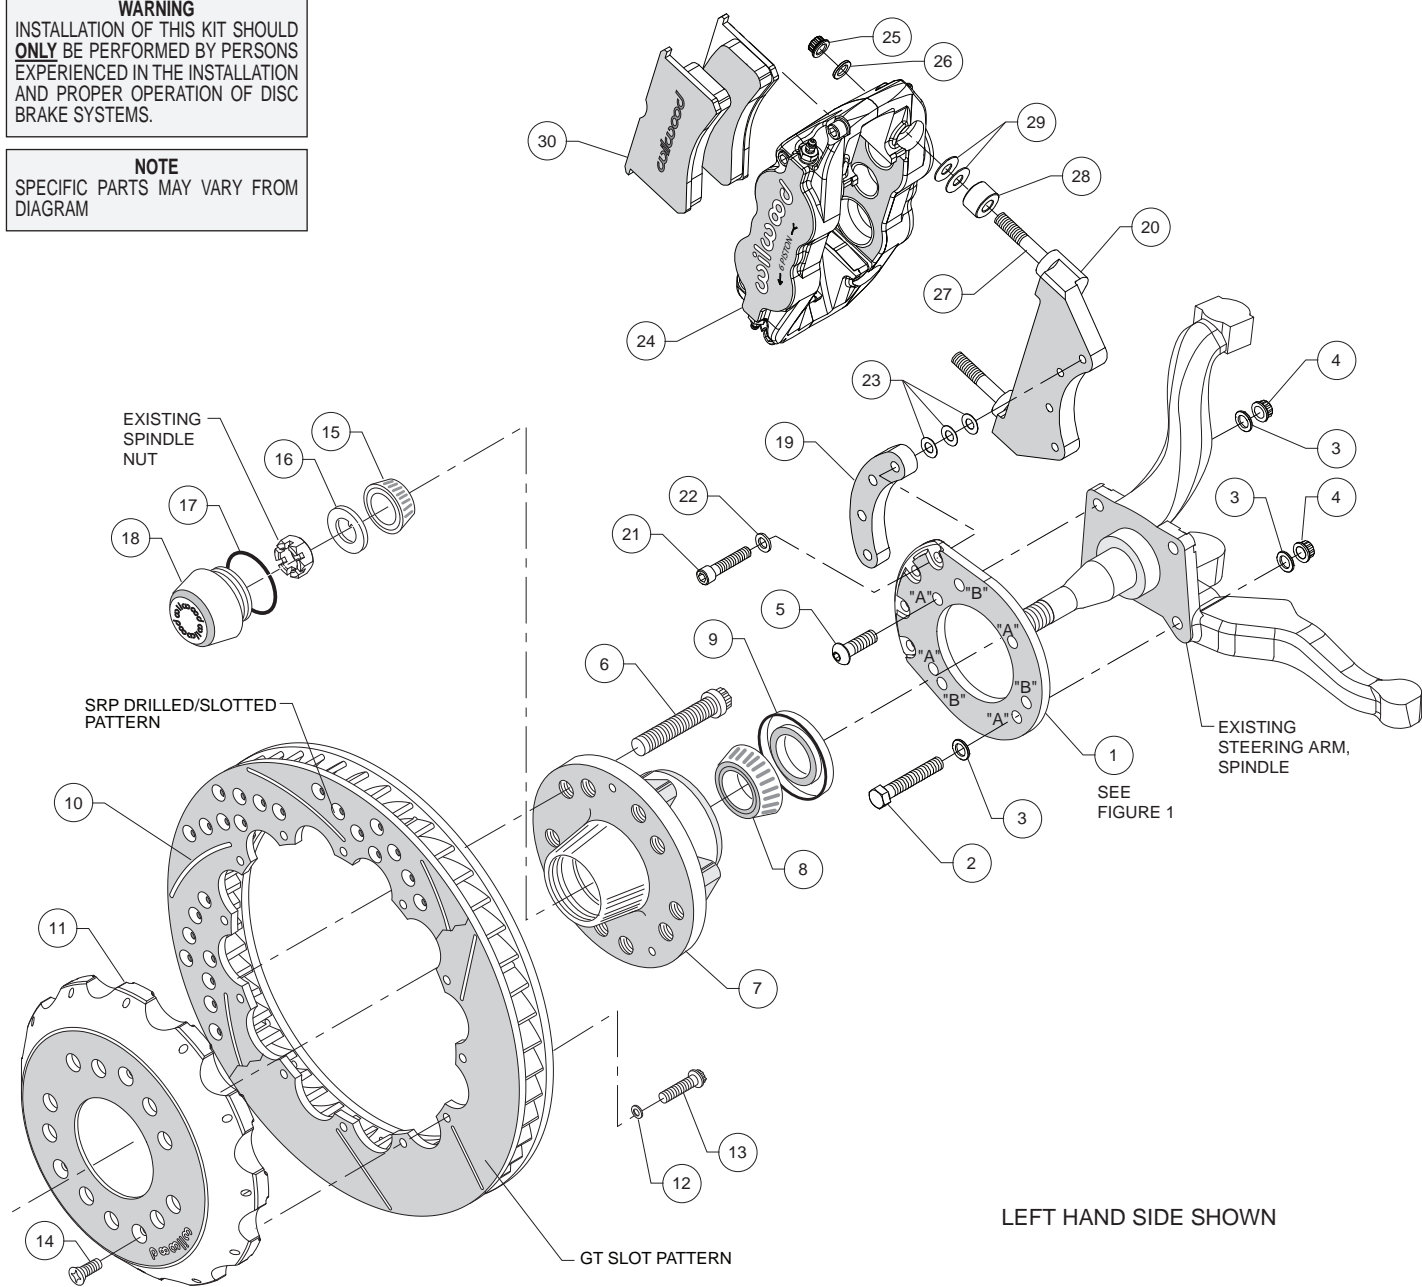

Figure 2. Typical Installation Configuration
Assembly Instructions (numbers in parenthesis refer to the parts list and Figure 2 on the preceding pages):
•Align bracket, using the four "A" holes, to the face of the spindle and attach using bolts (2 and 5), washers (3), and lock nuts (4), as shown in Figure 2 and Photo 1. Temporarily tighten the mounting bolts. **NOTE:** The bracket must fit squarely against the mounting points on the spindle. Inspect for interference from casting irregularities, machining ridges, burrs, etc. Torque lock nuts (4) to 25 ft-lb.
•Install wheel studs (6) into the hub (7), Photo 2. Torque to 77 ft-lb. **NOTE:** There are two five lug patterns in the hub (5 x 4.50 and 5 x 4.75). Ensure the correct hub stud pattern is being used to fit the wheel application.
•Pack the large inner bearing cone (8) with high temperature disc brake bearing grease (available from your local auto parts store) and install into the backside of the hub (7), Photo 3.
•Install the grease seal (9) by pressing into the backside of the hub (7), flush with the end of the hub, Photo 3.
•Pack the small outer bearing cone (15) with high temperature disc brake bearing grease and install into hub (7). Slide the hub assembly onto the spindle. Secure using spindle washer (16) and OEM spindle nut, Photo 4. Adjust bearings per OEM specifications. Install saved OEM nut lock (if any) and a new cotter pin (not included).
•Screw dust cap (18) into hub (7), Photo 5. Friction created by the o-ring (17) on the dust cap keeps it from unscrewing. **NOTE:** The O.D. of the existing OEM spindle washer may be larger than the I.D. of the dust cap not allowing it to seat against the hub face. Therefore, use the spindle washer (16) supplied with the kit instead of the OEM washer.
•Orient the rotor (10) and the hat (11) as shown in Figure 2 and Photo 6. Attach rotor to hat using bolts (13) and washers (12). Using an alternating sequence, apply red Loctite® 271 to the
- Slide the hat/rotor assembly (10/11) onto the hub (7) taking care to align the small countersunk holes in the hat with the small threaded holes in the hub (7). **NOTE:** The hat must fit flush against the hub face or excessive rotor run out may result. Install three flat head screws (14) through the small holes in the hat, Photo 5, and torque to 85 in-lb.
- Attach the caliper mounting bracket (20) to the spindle bracket (1) using bolts (21), washers (22), and spacer (19) as shown in Figure 2 and Photo 7. Initially place three .015" thick shims (23) on each bolt between the spacer and the caliper bracket. Temporarily tighten the mounting bolts. Later, after the caliper alignment has been checked, the mount bolts will be secured using red Loctite® 271.
- **NOTE:** This kit contains distinct right and left hand calipers that must be mounted in a specific direction, as described below. Lubricate the caliper mounting studs (27) with lightweight oil. Initially place two .035" thick shims (29) and spacer (28) on each stud between the caliper and the bracket, as shown in Figure 2 and Photo 8. Mount the caliper (24) onto the bracket (20) using lock nuts (25) and washers (26), Figure 2. Ensure that the caliper is mounted so the largest pistons are at the rotor exit end of the caliper, in relation to the direction of rotor rotation. Temporarily tighten the lock nuts and view the rotor through the top opening of the caliper. The rotor should be centered in the caliper, Photo 9. If not, adjust by adding or subtracting shims (23) between the caliper bracket (20) and the spacer (19). Always use the same amount of shims on each of the four mounting bolts. Once the caliper alignment is correct, remove the bracket mounting bolts one at a time, apply red Loctite® 271 to the threads, and torque to 25 ft-lb.